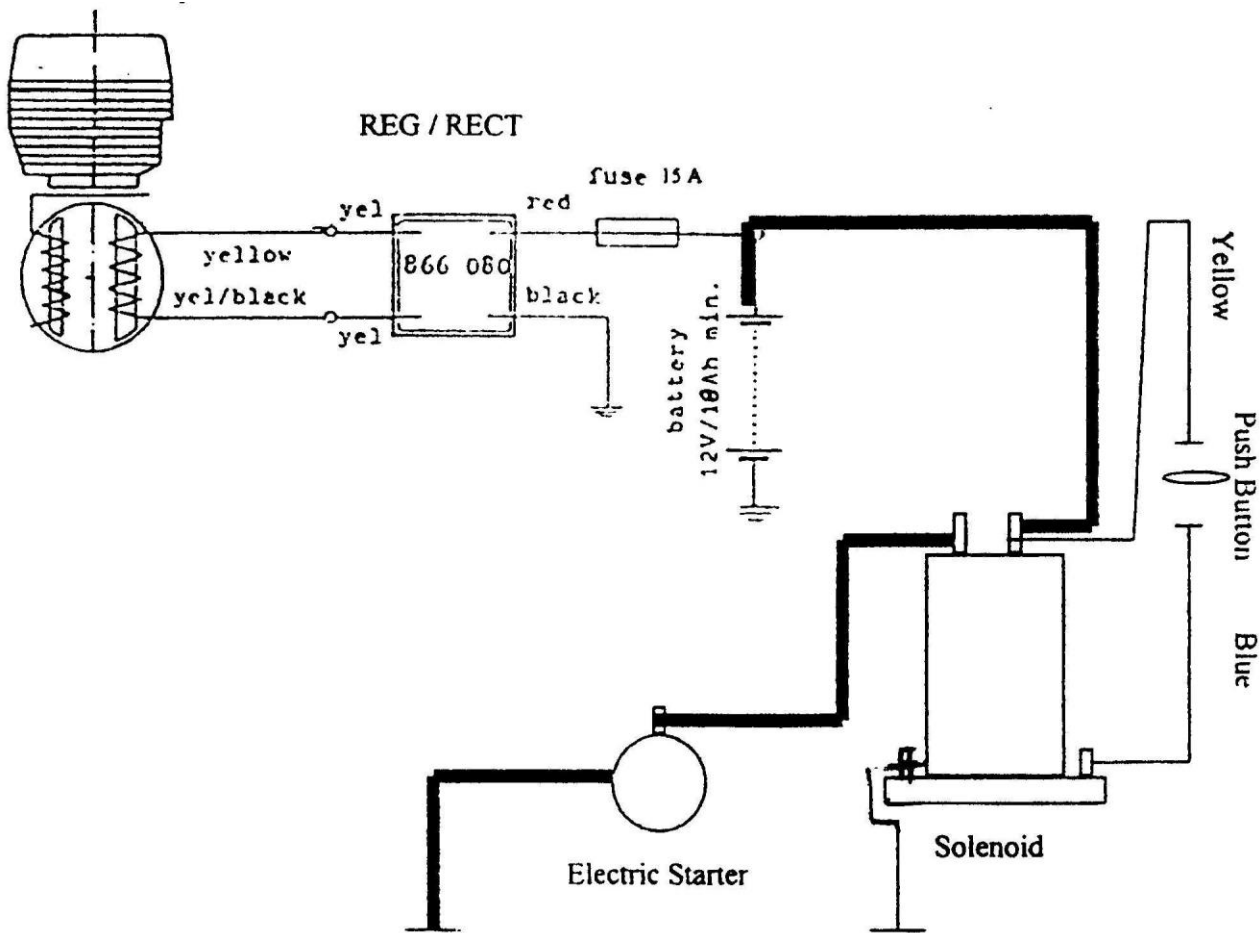

FIGURE 3
3. Route the wiring harness. (See figure 3) The red wire* with the fuse goes to the battery side of the solenoid*. The yellow wire* on the opposite side of the regulator* goes to the starter switch. The blue wire* runs from the starter switch to the small post on the solenoid using the 8-32 hex nut and lock washer and tighten securely. The black wire attaches to the other small post and then to the ground.